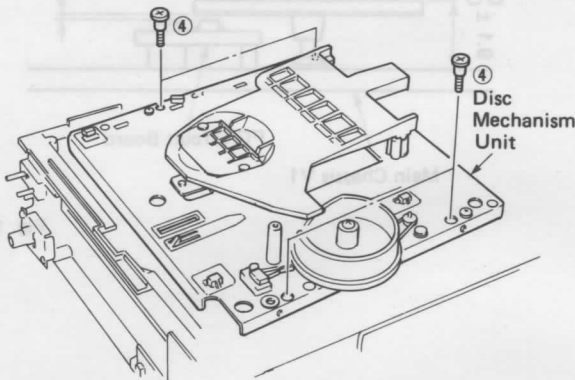

Fig. 3
Remove 4 screws (4) in Fig. 3.